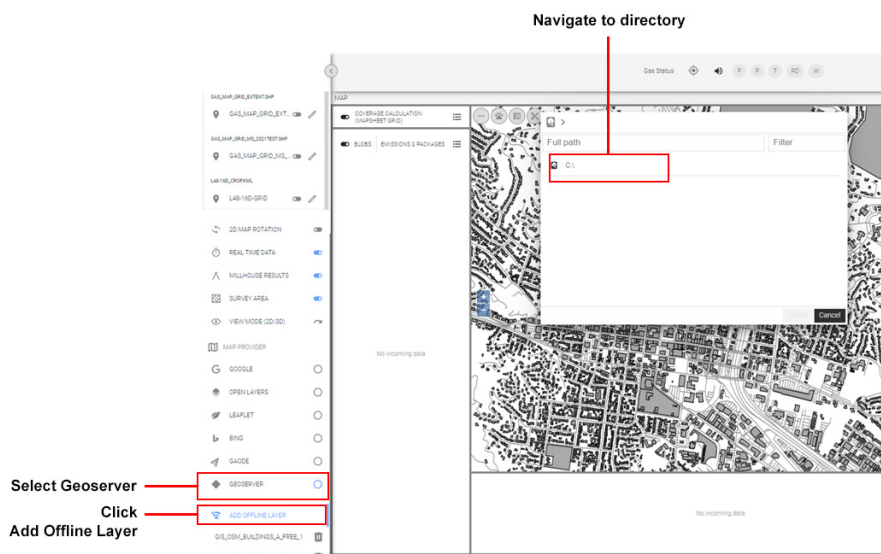

Figure 24 Import Offline Map
- 2 Select **Geoserver** as the map provider (see Figure 24).
- 3 Click **Add Offline Layer** (see Figure 24).
- 4 Navigate to the directory that has the map data (see Figure 24).